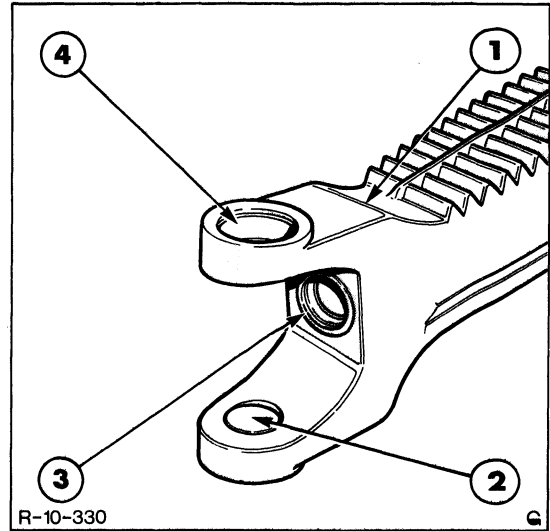

Figure 12
- 1. Inspect the swivel bearing and cups for wear and damage, replacing if necessary. To remove the swivel bearing cups drive out the grease retaining plugs, Figure 12.